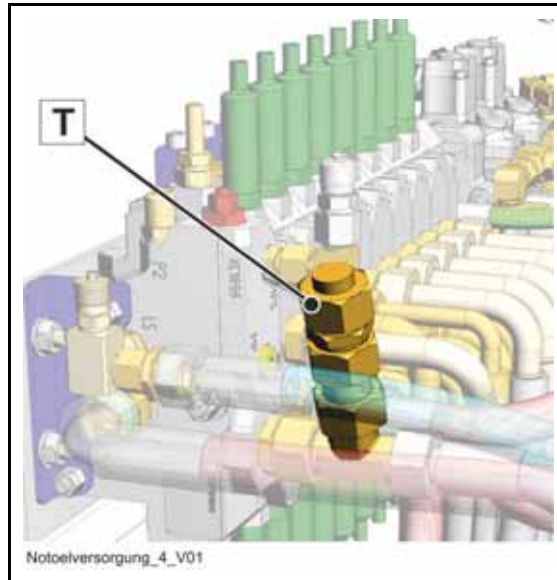

Fig. 228 Emergency oil supply T-connection - S 43 SX III (in detail)
The connection (T) for the return flow is located behind the control block for the S 43 SX III (**Fig. 228**).